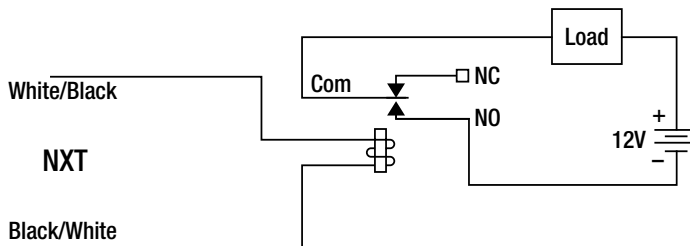

Figure 12-15. Basic relay circuit
Relays are controlled switches that use an electromagnet to move electrical contacts on and off. Usually relays have both normally open (NO) and normally closed (NC) contacts with a shared common connection. The common connection is also known as the *pole*. When the electromagnet is energized, the pole is pulled toward the NO contact to close it and away from the NC contact to open it. Figure 12-15 shows the basic relay circuit. The load can be a device operating at a different voltage than the NXT, and also something that requires substantially more power than the NXT can deliver.